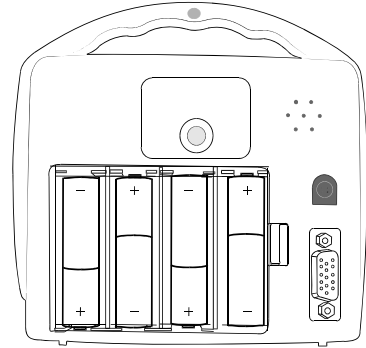

Figure 3-2 Installing Batteries
2. Place batteries into the slots per the "+" and "-" indicators (figure 3-2).